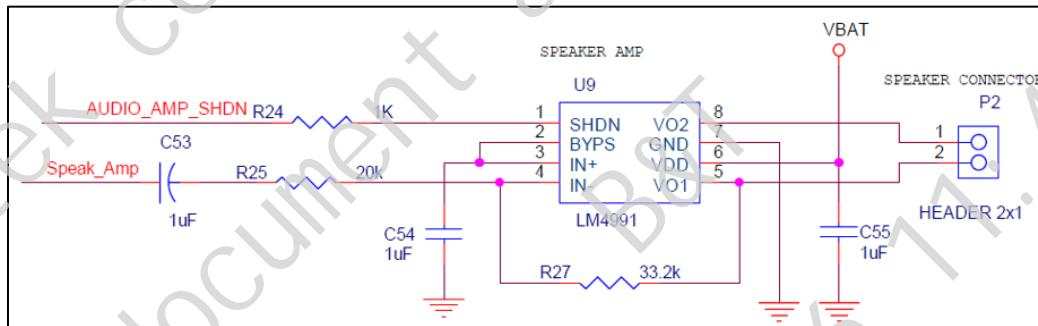

Fig 23-16 Reference design of using AB type power amplifier
- If the power amplifier is an AB type amplifier, refer to the design shown in Fig 23-16 (power amplifier is LM4991).
- 当您使用 AB 类功放时，请参考 Fig 23-16 设计(功率放大器的型号是 LM4991)。